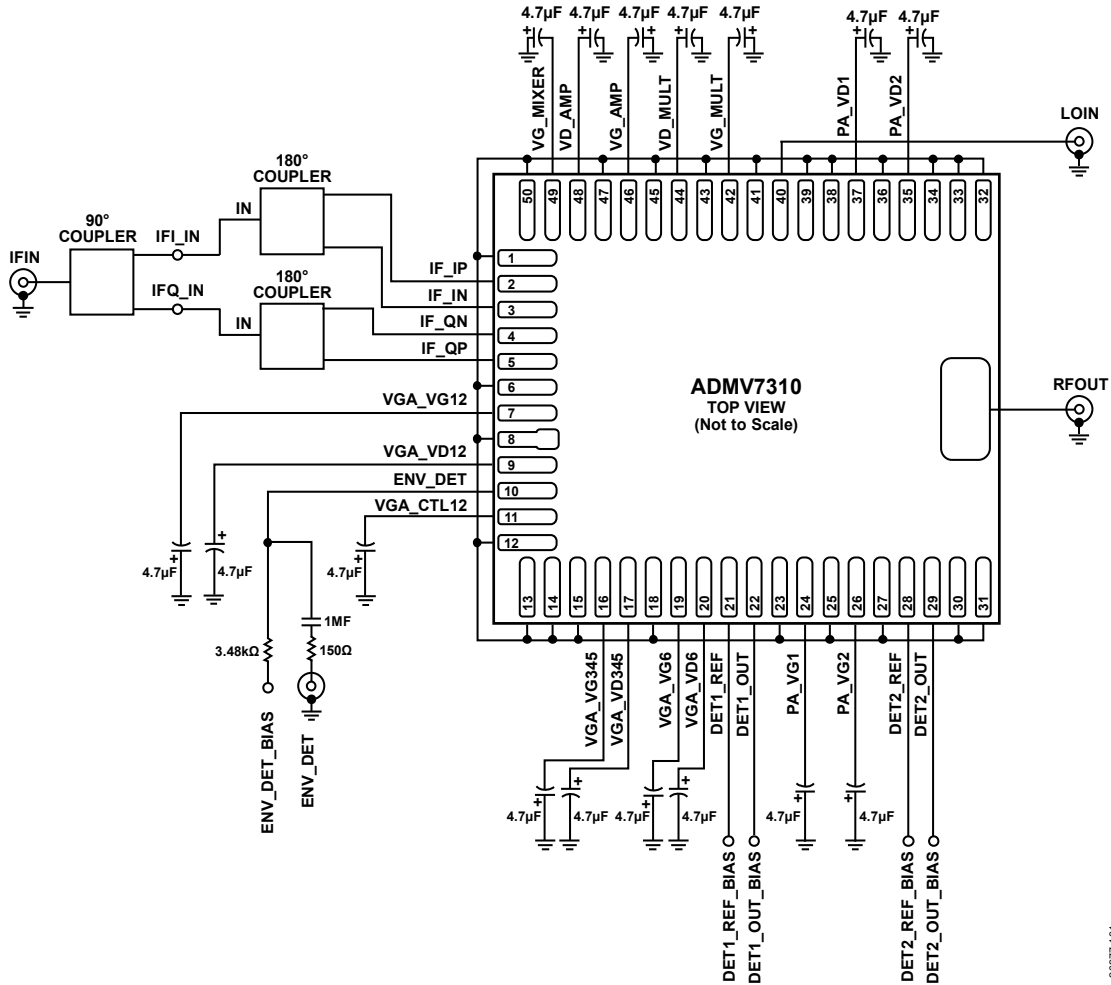

Figure 86. Typical Application Circuit
5. Apply a  $4\text{ V}$  bias to VD\_AMP, VGA\_VD12, VGA\_VD345, VGA\_VD6, PA\_VD1, PA\_VD2, DET1\_REF\_BIAS, DET1\_OUT\_BIAS, DET2\_REF\_BIAS, and DET2\_OUT\_BIAS (see Figure 86).
Figure 86 shows the typical application circuit.